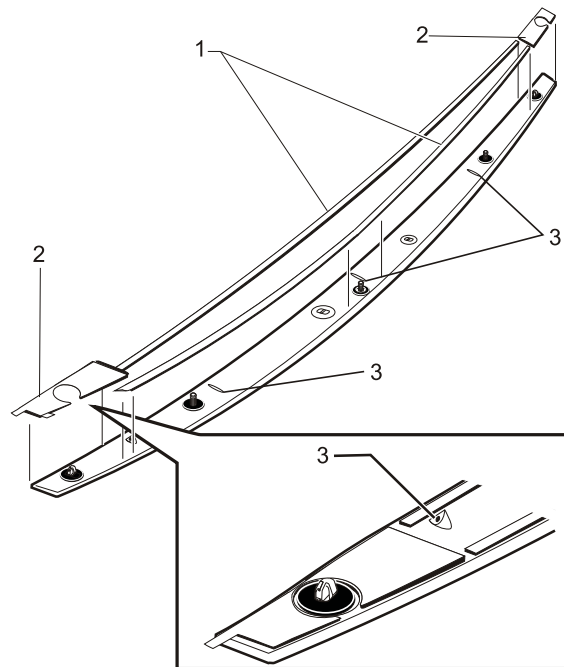

FIGURE 10
29. Apply the 2 adhesive tape strips (1) along the front and rear edge of the spoiler. Apply the tape patches (2) to ends of the spoiler. Apply pressure on all tape strips/patches to ensure permanent adhesion to spoiler. Avoid obstructing spoiler vent holes (3). Refer to figure 10.